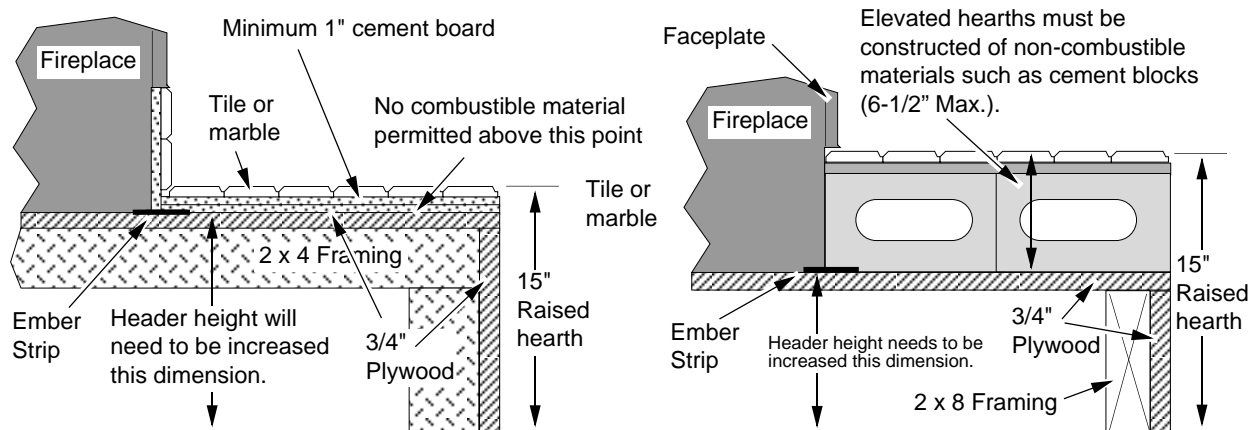

Figure 10
- The fireplace (and hearth, if desired) may be placed on a platform designed to support the fireplace and vent (approximately 600 lbs.). See Figure 10.